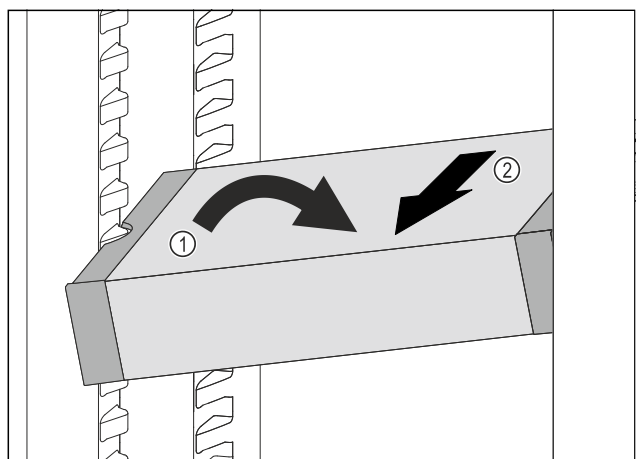

Fig. 109
- ▶ Set VarioSafe in refrigerator compartment at an angle. *Fig. 109 (1)*
- ▶ Take VarioSafe out to the front. *Fig. 109 (2)*